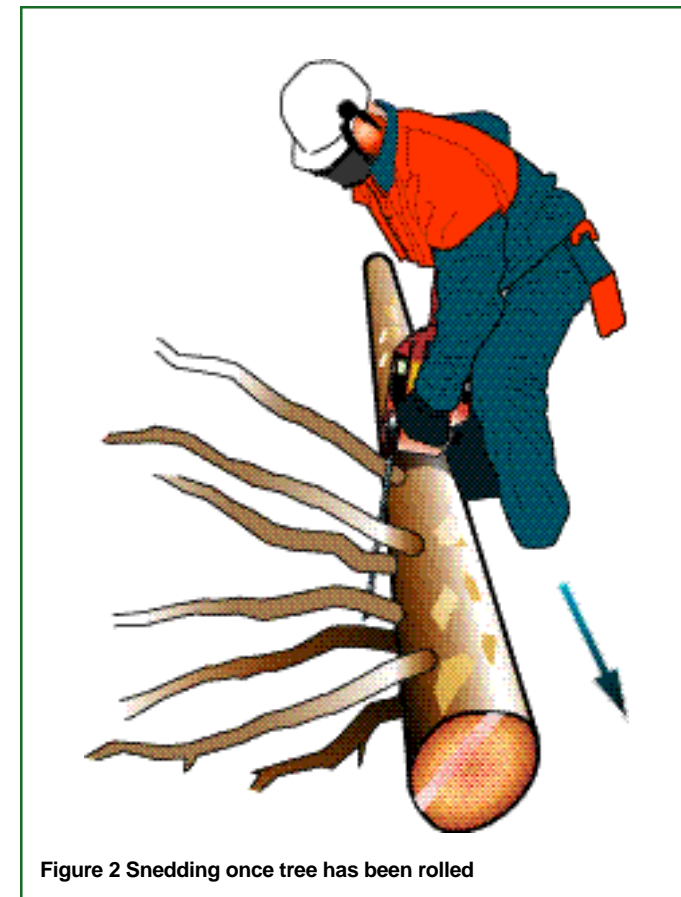

Figure 2 Snedding once tree has been rolled
- 19 When the tree has been turned for access to the remaining branches, use the stem for protection while cutting (see Figure 2).